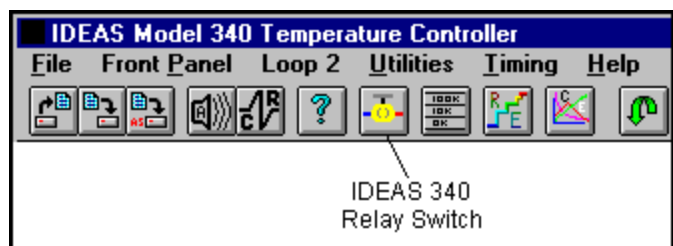
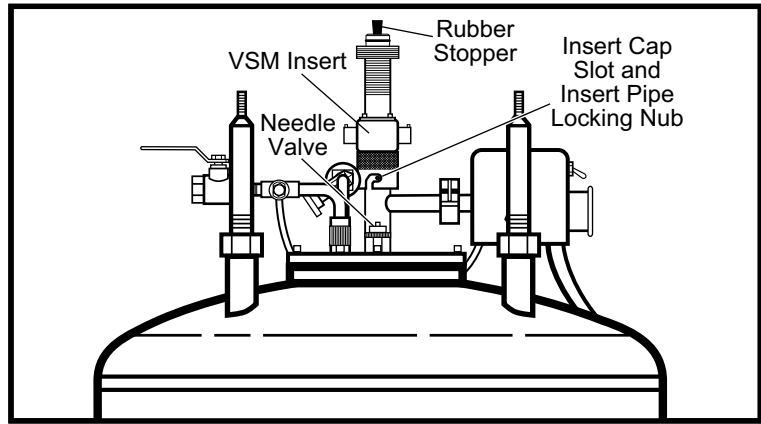

Figure 3-8 IDEAS 340 Relay Switch Button
Figure 3-9 Installing the VSM Insert
13. Open the IDEAS 340 software driver and click the Relay Switch button (Figure 3-8). The Solenoid Valve Assembly clicks and the pump evacuates air from the sample space. Pump out the sample space for about 10 minutes.
14. If pre-cooling with liquid nitrogen, wait until after the boil-off dies down, then shut Vent Valve, unseat Needle Valve and pull it out from the dewar approximately 6 inches. Pump out the valve tube for about 10 minutes, then reseal the Needle Valve (Figure 3-9). If not pre-cooling, skip this step.
15. Click the IDEAS 340 Relay Switch off (Figure 3-8). Push Solenoid Valve Assembly Flush Switch toward **FLUSH** and remove Insert Pipe Cap. Slide the VSM Insert into the Insert Pipe. Align VSM Insert Cap Slot with Insert Pipe Locking Nub and turn the VSM Insert clockwise to lock in place (Figure 3-9).
16. Plug top of Insert with the supplied rubber stopper and push the Flush Switch away from **FLUSH** (Figure 3-9). Click the IDEAS 340 Relay Switch on (Figure 3-8).
19. If not pre-cooling, shut Vent Valve, unseat Needle Valve and pull it out from the dewar approximately 6 inches, and pump out the valve tube for about 10 minutes. Securely reseal Needle Valve after pumping (Figure 3-9). Follow instructions in Paragraph 3.2 to transfer liquid helium from the storage dewar to the magnet dewar.
28. Click the IDEAS 340 Relay Switch button off (Figure 3-8). Push the Flush Switch toward Flush and remove the rubber stopper from the top of the VSM Insert (Figure 3-9).